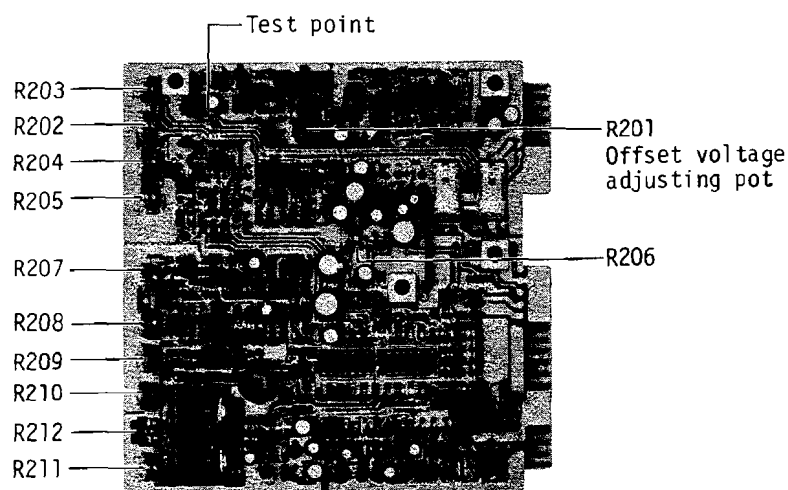

Fig. 8-19
- 4) Switch the OUTPUT on 85-16B to REPRO. Then, adjust the trim pot marked REPRO LVL (R204, 33 k $\Omega$ , Fig. 8-19) so that the AC voltmeter connected to the output reads -10 dB (0.3 V).
- 5) Switch the OUTPUT SELECT to SYNC. Then, adjust the trim pot marked SYNC LVL (R205, 33 k $\Omega$ , Fig. 8-19) until the AC voltmeter connected to the output reads -10 dB (0.3 V).
- 2) If it does not, adjust the trim pot marked METER CAL (R206, 47 k $\Omega$ , Fig. 8-19) on the Record/Reproduce Amplifier PCB Ass'y so that the VU meter reads 0 VU.
Punch the INPUT button of the OUTPUT SELECT buttons. If the VU meter does not read 0 VU, adjust the pot marked IN MON LVL (R207, 10 k $\Omega$ , Fig. 8-19).
- 4) The trim pot to adjust is R212, marked BIAS LVL (100  $\Omega$ , Fig. 8-19).